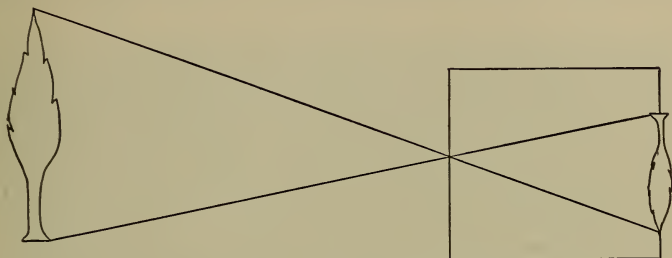

FIGURE 103.—THE PINHOLE CAMERA.
**140. The Pinhole Camera.** — The simplest camera that we have is illustrated by Figure 103. It consists of a light-